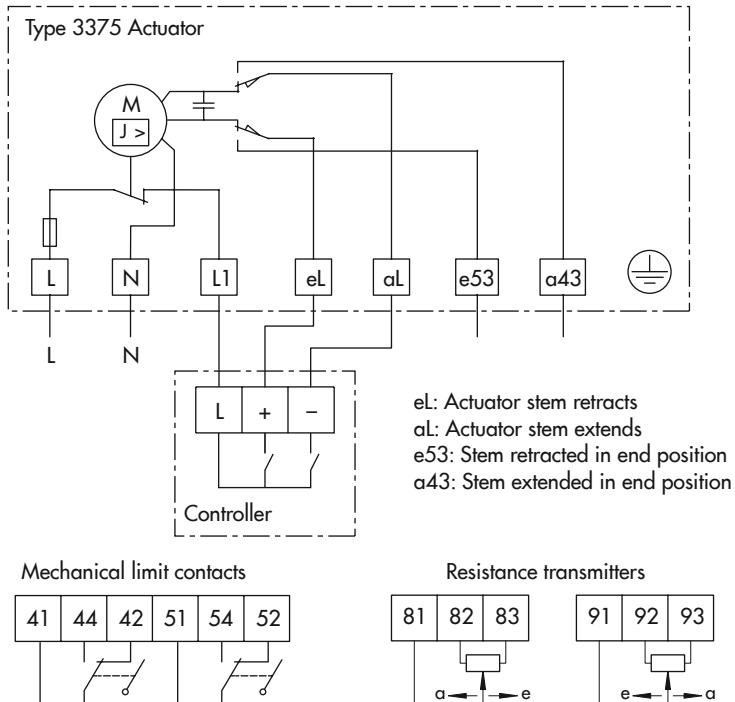

Fig. 5-11: Electrical connection
- Connect the wiring as shown in Fig. 5-11.